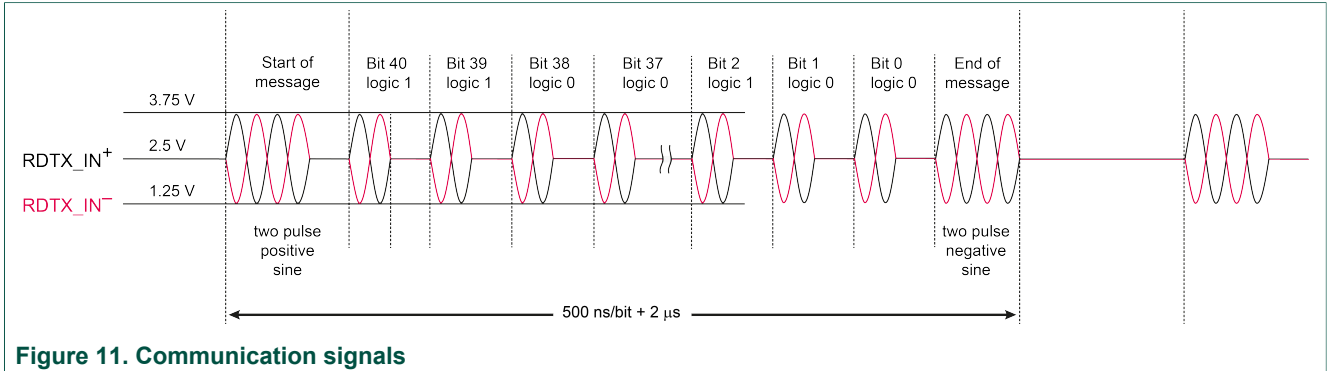

Figure 11. Communication signals
6. Observe the isolated differential signal and the SPI signal on the oscilloscope. Figure 11 shows the protocol of the output signal on the IC pins.